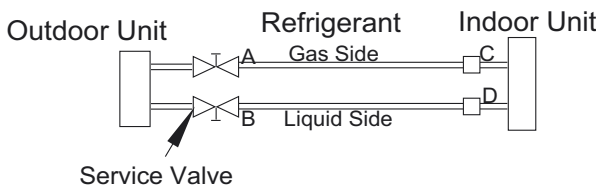

Fig. 11 – Service Valve
1. Completely tighten flare nuts on the line set at both the indoor and outdoor units. **DO NOT** open the service valves on the outdoor unit for the new installation or the replacement unit. Open the service valves on the outdoor unit if repairs have been made to the refrigerant sealed system. Connect the manifold gauge low pressure hose to the charge port of the gas side service valve (see Fig. 11).